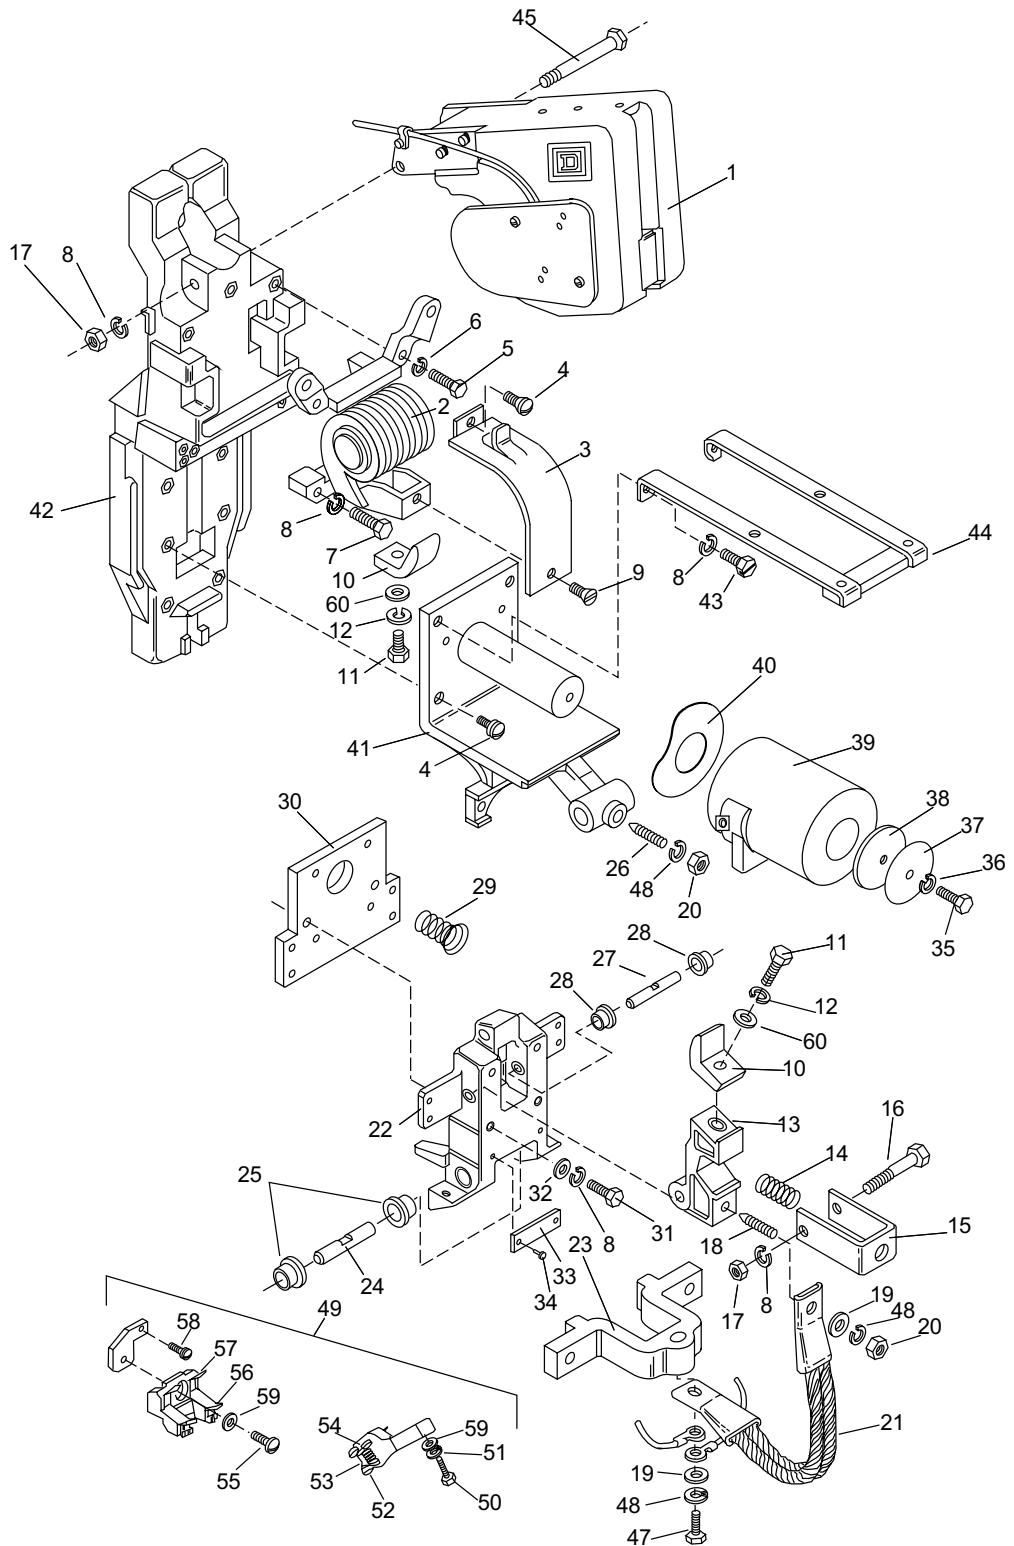

Figure 7: Contactor Assembly Drawing
2. Loosen the terminal clamps and screws (57), and remove the terminal leads from the stationary contact assembly. Note the position of the leads to ensure proper replacement.
3. Remove the pan head screw (50), lock washer (51), washer (59), and the movable contact assembly.
4. Remove the captive screw assembly (58) and the stationary contact assembly.
5. Install the new stationary contact assembly and secure it with the captive screw assembly. Be sure to position the stationary contact assembly as shown in Figure 7 on page 11.
6. Install the new movable contact assembly and secure it with the washers, lock washers, and pan head screws. Be sure to position the movable contact assembly as shown in Figure 7.
Specify the quantity, part number, and description of the part, giving the complete nameplate data of the contactor. To identify parts, see Figure 7 on page 11.
Figure 7 identifies items in the parts list and in the maintenance and adjustment procedures.